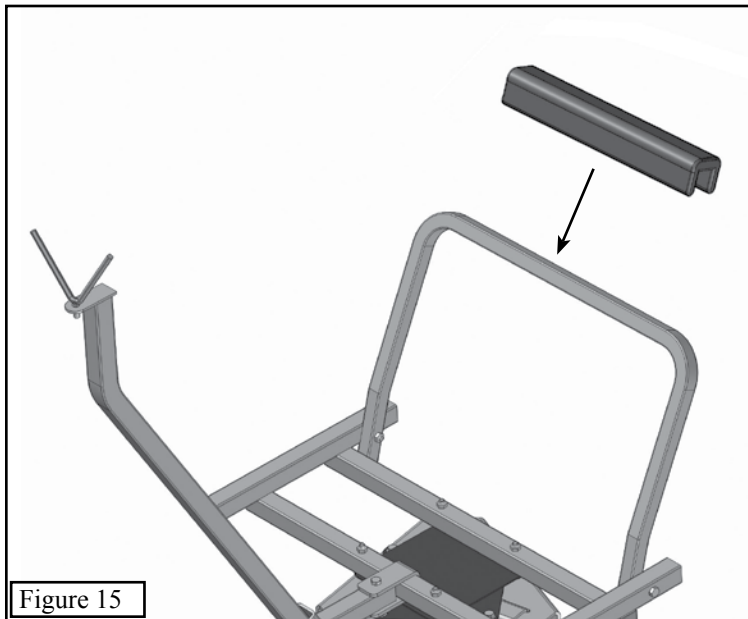

Figure 15
**Step 11.** Position the 12" back rest pad as shown in **Figure 15**. Secure the pad to the back rest bar using 2 cable ties. The cable ties for attaching the pads are "in-line" cable ties: Note the correct and incorrect ways of attaching. To attach - pull the cable ties snug, cut off the excess, and rotate the clasp to the underside of the pad.